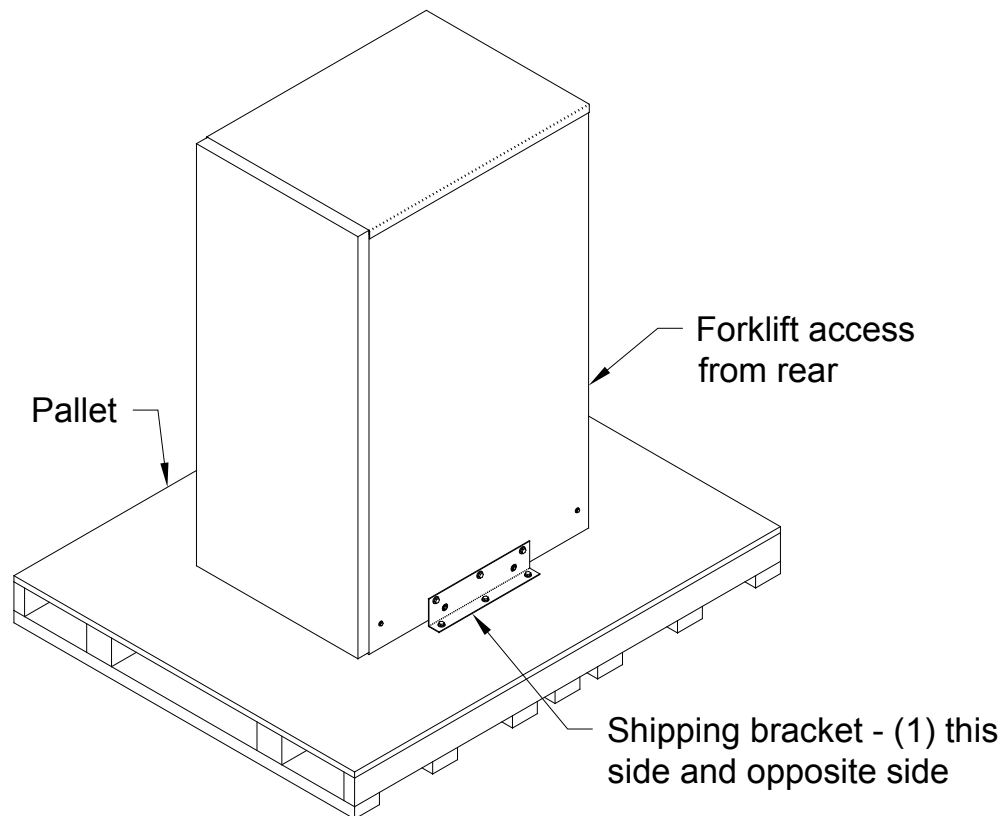
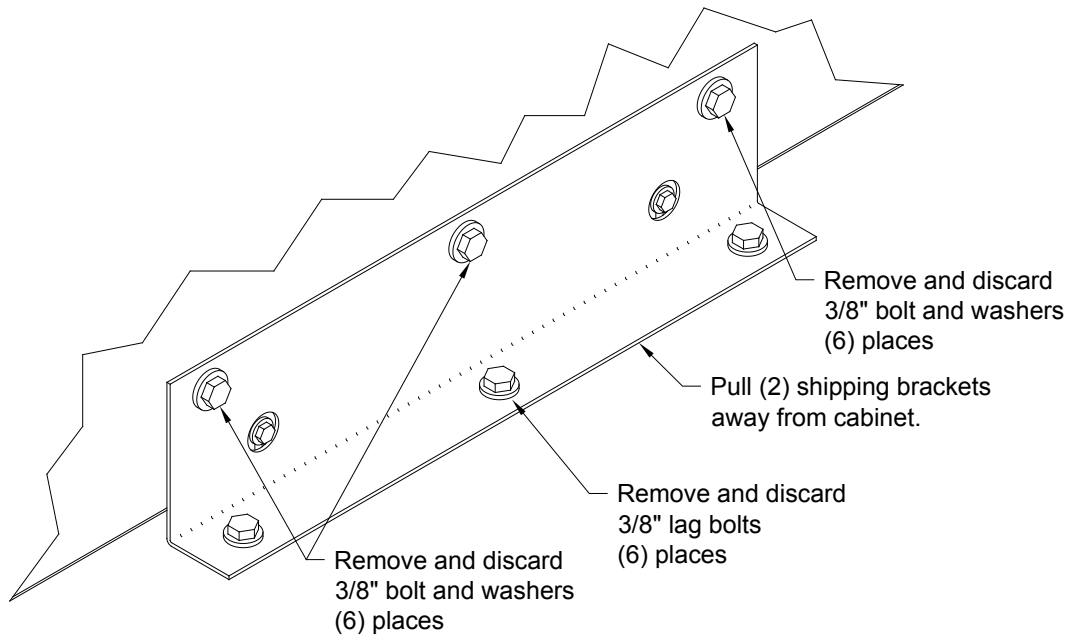

Figure 2 - Extended Run Time Battery Cabinet on Shipping Pallet
Figure 3 - Shipping Bracket
4. **Figure 2** and **Figure 3**).